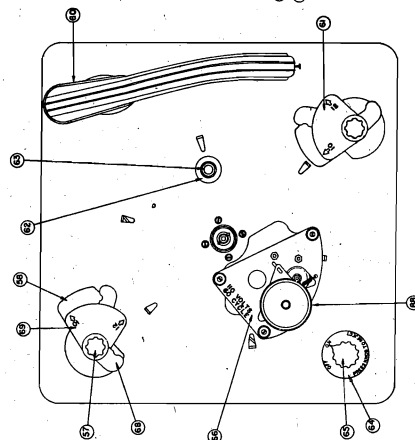
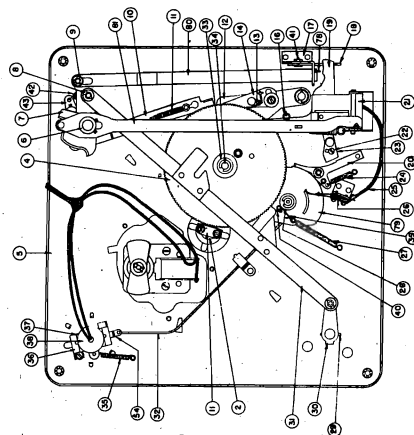
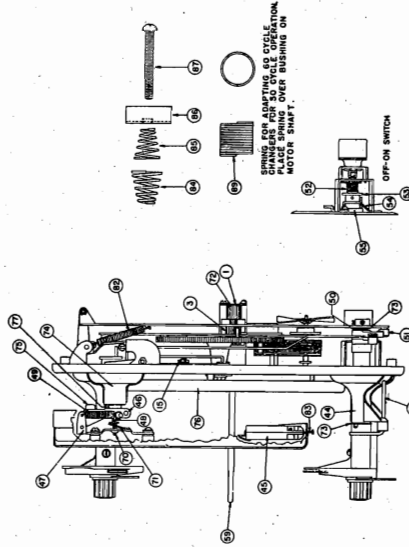

Figure 11
Figure 12
Figure 13
The Record Changer is started by turning the switch control knob, (Item 65, Fig. 11) to "ON", this starts the motor and moves trip rod (Item 32, Fig. 12), which rotates trip lever assembly (Item 20, Fig. 12), causing the motor to disengage from Engagement Clutch Cam, (Item 27, Fig. 12). The Engagement Clutch Cam will then rotate due to tension from spring, (Item 27 Fig. 12).
This causes it to contact the pin on the top side of Drive Gear Assembly, (Item 4, Fig. 12), as it rotates, and, in turn, moves the Drive Link Assembly, (Item 31, Fig. 12), and the Selector Shaft Crank Assembly, (Item 3, Fig. 12), to the position shown in Fig. 12. Also the tone arm rest link (Item 80, Fig. 12) has moved to where it compresses the latch, (Item 18, Fig. 12), and carries the tone arm to its extreme leftward position. The Tone Arm Lifter Link (Item 91, Fig. 12), positioned between the tone arm to its remaining rightward position. The Tone Arm Lifter Link (Item 91, Fig. 12), is pivoted at one end to its remaining rightward position by the friction of the Tone Arm Brake Spring (Item 21, Fig. 12). The tone arm is "floating" free by the friction of the tone arm Brake Spring, which also compresses the tone arm booster spring, (Item 13, Fig. 12) due to its very light tension.
The Drive Gear Assembly (Item 4, Fig. 12) continues to rotate which causes the top pin to disengage from the Automatic Engagement Clutch which is moved back to latch with the tone arm trip lever, and the lower pin to engage the drive link assembly, moving the tone arm to either the 10-inch or 12-inch record playing position and lowers it to the record. At the same time it releases the Tone Arm Brake Spring allowing the Tone Arm Booster Spring to act.
If the Tone Arm lowers too suddenly, the Spring Washer (Item 50, Fig. 3) which is located between the Tone Arm Lifter Link Assembly (Item 81, Fig. 2) and Selector Crank Shaft Assembly Post (Item 7, Fig. 2) should be loosened. The set screws in the Selector Shaft Collar (Item 6, Fig. 11) should be loosened and the Selector Shaft Collar pressed upward slightly and set screws tightened.
point. If the clearance is greater, it would be due to the pressure on the Spring Washer (Item 50, Fig. 13) being too great. To prevent the Tone Arm from lowering too suddenly, the Spring Washer (Item 50, Fig. 13) should be loosened. To relieve the pressure on the Spring Washer, lower the Selector Shaft Collar (Item 6, Fig. 11) slightly.
1. Swing tone arm outward until tone arm lever assembly, (Item 19, Fig. 12) latches with tone arm latch shaft, (Item 77, Fig. 13) by two set screws.
2. Make sure these set screws are tight and that there is a slight play between the tone arm lever assembly and the panel, (Item 5, Fig. 12). This will give proper clearance at ball race assembly, (Item 74, Fig. 13).
The tone arm lever assembly, (Item 19, Fig. 12) is held against tone arm latch lever, (Item 18, Fig. 12) by the tension of tone arm locator lever spring, (Item 16, Fig. 12).
3. Next loosen the clamping screw in the Swivel Bracket Assembly, (Item 46, Fig. 13).
4. Now move tone arm, (Item 60, Fig. 11) until its outside edge is $\frac{1}{8}$ " from the outside edge of the panel (Item 5, Fig. 12) and re-tighten screw securely.
(B) *Cut-off Adjustment May Be Incorrect:* The Record Changer should go into its changing cycle when the needle has reached the above-mentioned distance, the Tone Arm Trip Lever Shoe, (Item 23, Fig. 12), should be moved toward the outside edge of the panel. To do this, it is necessary to loosen the thumb nut, (Item 22, Fig. 12), and then re-tighten after adjustment has been made.
2. Check Trip Rod, (Item 32, Fig. 12), to make sure it releases Trip Lever Assembly, (Item 20, Fig. 12), from Engagement Clutch Cam Assembly, (Item 79, Fig. 12), when Switch Knob is being turned on. If Trip Lever Assembly is not released, Trip rod should be shortened by bending until Trip Lever clears Engagement Clutch Cam Assembly, when Switch Knob is turned.
3. Make sure that Clutch Rest Pawl, (Item 40, Fig. 12) clears Drive Link Assembly, (Item 31, Fig. 12).
(A) Trip Lever Assembly, (Item 20, Fig. 2) does not latch in Engagement Clutch Cam Assembly, (Item 79, Fig. 12), which may be due to causes listed below:
1. Trip Rod (Item 32, Fig. 12), may be bent so that it is too short, holding Trip Lever Assembly from contacting Engagement Clutch Cam Assembly.
2. Springs (Item 24 or 35, Fig. 12) may be disconnected.
1. Muting switch (Item 26, Fig. 12), may be out of adjustment. The contacts of this switch should be open whenever its long blade is not resting on the shoe of the Engagement Clutch Cam Assembly (Item 79, Fig. 12). If the contacts remain closed after the long blade has left the shoe, they should be adjusted by bending until there is a separation of approximately $1/32$ ".
4. Set Rod (Item 56, Fig. 13), is operated by Selector Arm (Item 61, Fig. 11). The 12" Set Link (Item 10, Fig. 11), operates as a stop when Record Changer is set for 12" records. When Tone Arm Locator Assembly (Item 12, Fig. 11) contacts 12" Set Link the Tone Arm should be in the correct position to play a 12" record.
If at this point, the position of Tone Arm is incorrect, loosen the screw which holds the Tone Arm Locator Shoe 12" (Item 14, Fig. 11) and move in either direction as required and tighten screw.
3. Note where needle contacts record. Correct contacting is about $\frac{1}{8}$ " from the outside edge of record. If contacting of needle is not correct as mentioned, loosen the screw which holds Tone Arm Locator Shoe 10" (Item 15, Fig. 13) and slide shoe in or out as required, then tighten screw.
Set the Record Changer for ten-inch records, turn Switch to "ON" and allow Record Changer to go thru a changing cycle with no record on the turntable. The clearance between Turntable and the bottom surface of the Tone Arm should be approximately $\frac{1}{8}$ ". Usually this clearance can be obtained by adjusting the Tone Arm Adjustment Screw (Item 70, Fig. 13). It is well to check the following points before making any adjustment.
Check clearance between Roller (Item 51, Fig. 13), and Selector Crank Shaft Assembly, (Item 7, Fig. 12). There should be approximately $1/32$ " clearance at this